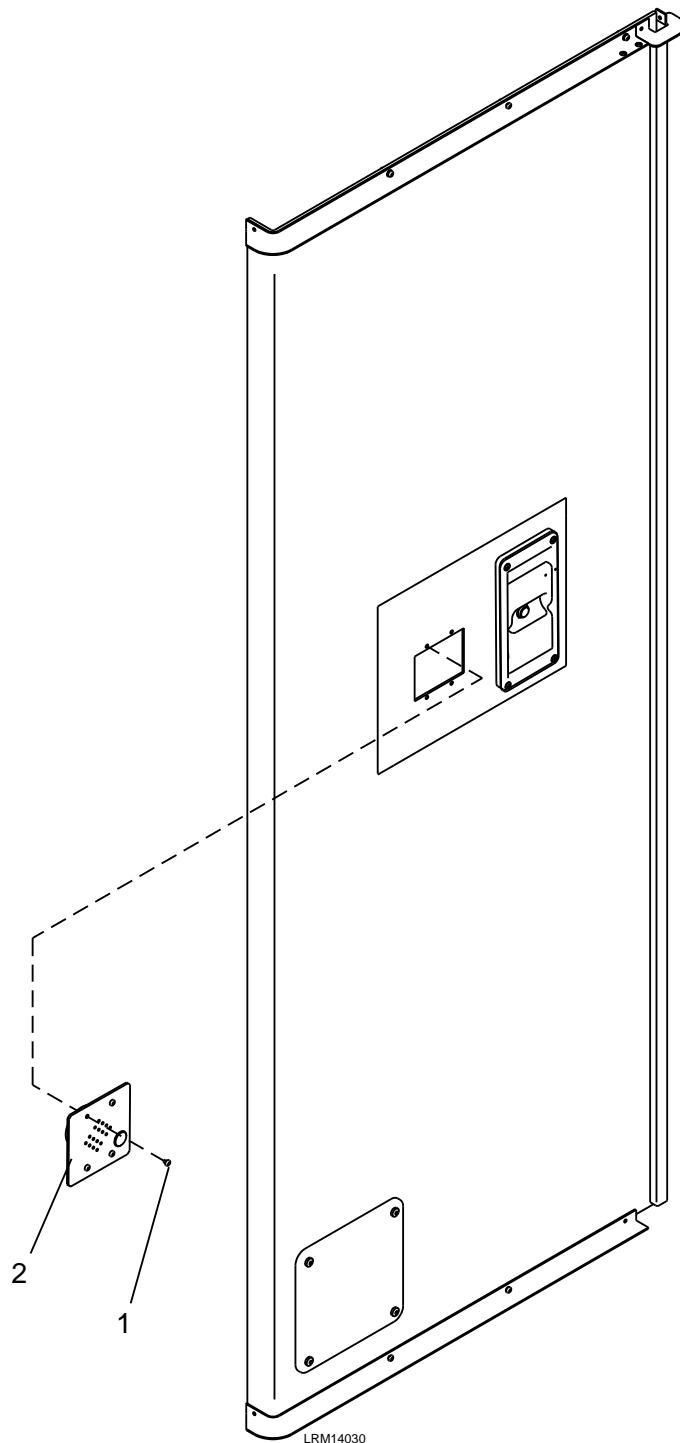

Figure 7-9: Passenger Intercom (PIC)
1. Remove the four M4 x 16 screws (1) from the Passenger Intercom (2). See Figure 7-9.